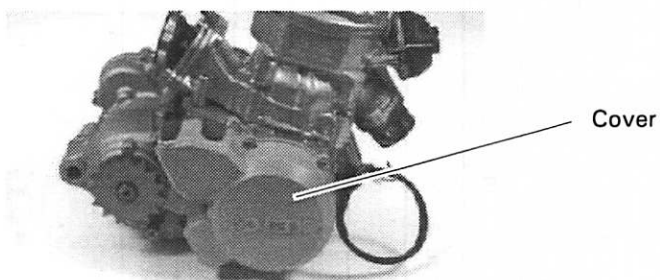

Figure 129
3. Install the ignition cover (Figure 129) as follows:
- Apply RTV 732 onto the ignition cover mating surface and install the cover (Figure 129).